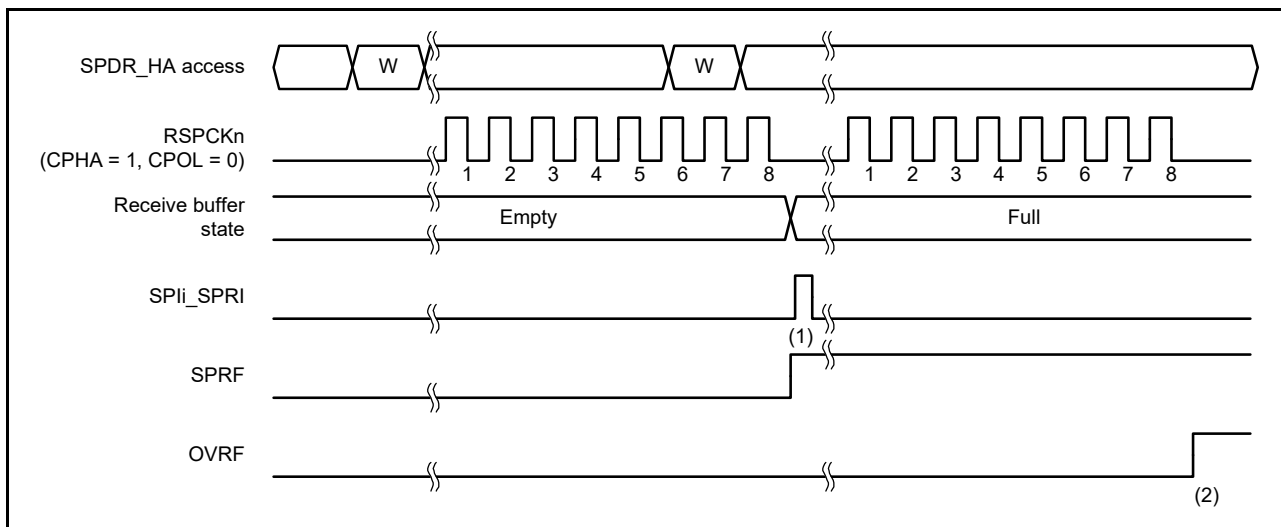
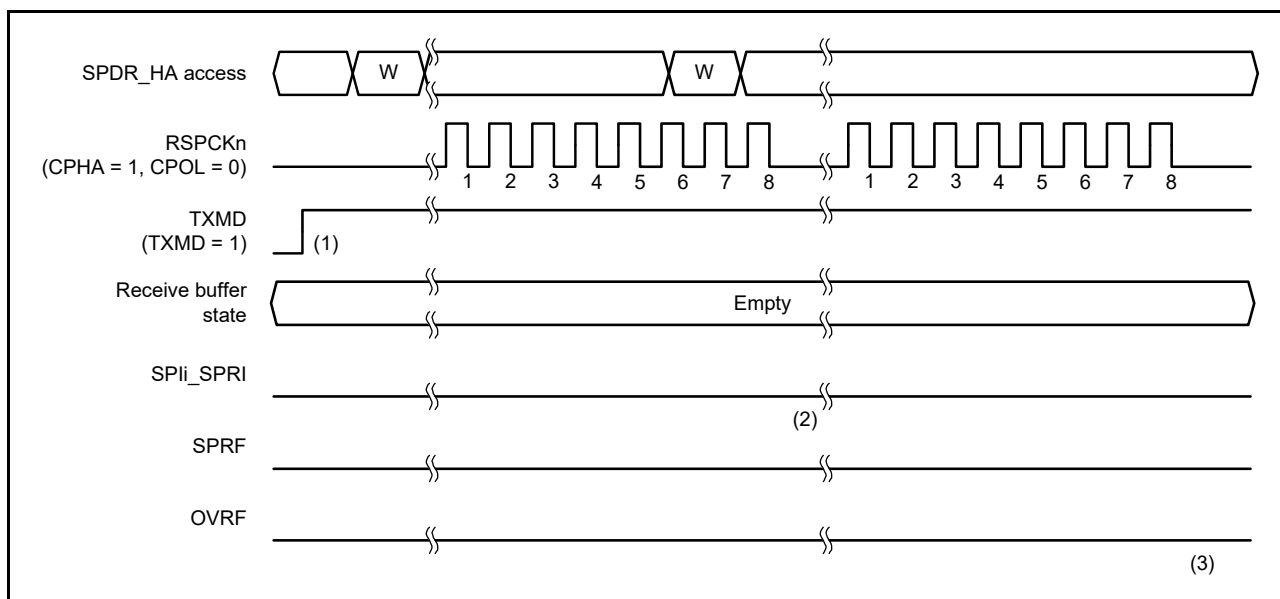

Figure 31.24 Operation example when SPCR.TXMD = 0
Figure 31.25 Operation example when SPCR.TXMD = 1
Full-duplex synchronous serial communications or transmit operations can only be selected in the Communications Operating Mode Select bit (SPCR.TXMD). The SPDR/SPDR\_HA access shown in Figure 31.24 and Figure 31.25 indicate the condition of access to the register, where W denotes a write cycle.
Figure 31.24 shows an example of operation where the Communications Operating Mode Select bit (SPCR.TXMD) is set to 0. In this example, the SPI performs an 8-bit serial transfer in which the SPDCR.SPFC[1:0] bits are 00b, the SPCMDm.CPHA bit is 1, and the SPCMDm.CPOL bit is 0. The numbers given for RSPCKn in the waveform represent the number of RSPCK cycles, such as the number of transferred bits.
The operation of the flags at timings (1) and (2) in Figure 31.24 is as follows:
Figure 31.25 shows an example of operation where the Communications Operating Mode Select bit (SPCR.TXMD) is set to 1. In this example, the SPI performs an 8-bit serial transfer in which the SPDCR.SPFC[1:0] bits are 00b, the SPCMDm.CPHA bit is 1, and the SPCMDm.CPOL bit is 0. The numbers given for RSPCKn in the waveform represent the number of RSPCK cycles, such as the number of transferred bits.
The operation of the flags at timings (1) to (3) in Figure 31.25 is as follows: